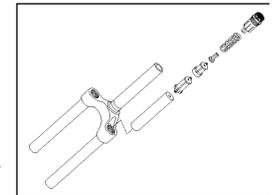

Fig. 2
- Remove the spring stack assembly (top cap, coil spring, spring rate adjuster, spacer and elastomer). (Fig. 2)